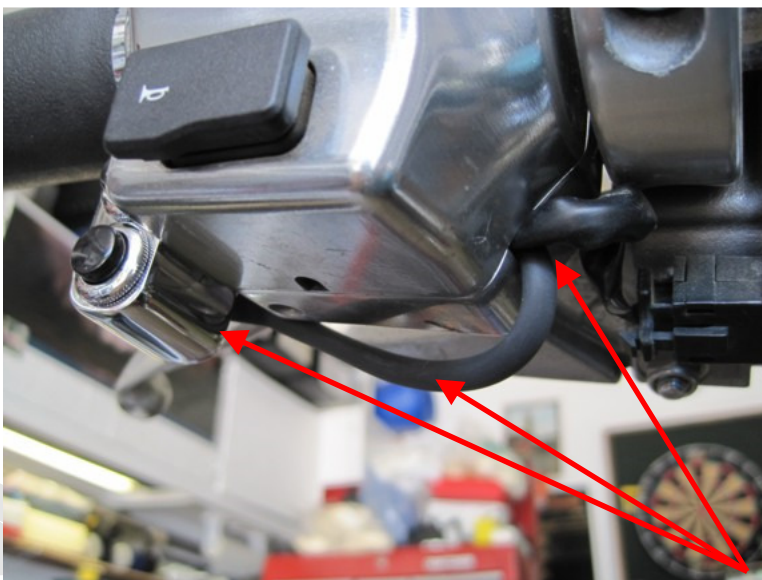

Fig.33
- Slide approximately 6-8 inches of heat shrink over the switch wires and slide all the way up to the back of the switch. This should be enough covering to protect the wires exposed between the switch and the point of entry into the handlebar opening.(Fig.33)